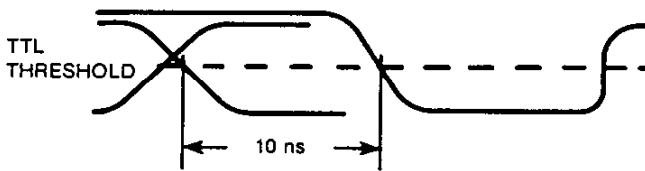

Figure 6.7
- a. Adjust D1 (R13) for 10 ns between the last address edge and falling edge of the \overline{WE} (see Figure 6.7).